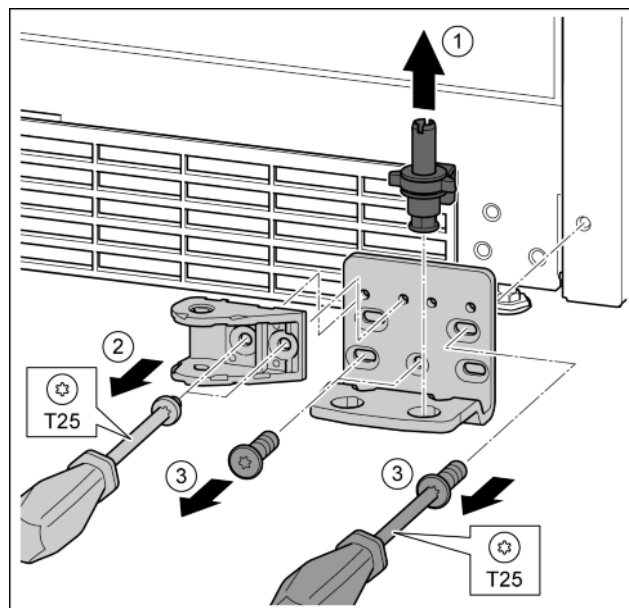

Fig. 30
- ▶ Lift the bearing pin completely upward and remove. Fig. 30 (1)
- ▶ Remove the screws with the T25 screwdriver and remove the soft stop connection. Fig. 30 (2)
- Undo the screws with a T25 screwdriver and remove the bearing bracket *Fig. 30 (3)*